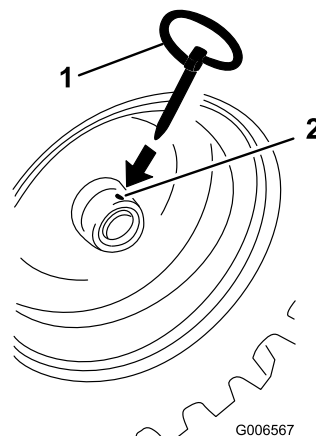

Figure 5
8. Slide the wheels outward and insert each axle pin through the hole in each wheel hub and through the **outer** hole of the axle (Figure 5).